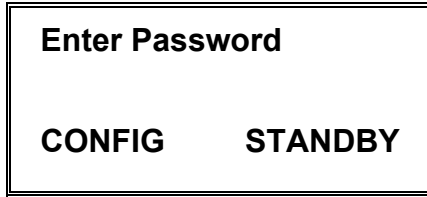

Fig. 3.2a: Config Mode-password
- Press '2' from the EXTENDED MENU. CONFIG mode appears on the LCD with unit status as STANDBY as shown in fig. 3.2a.